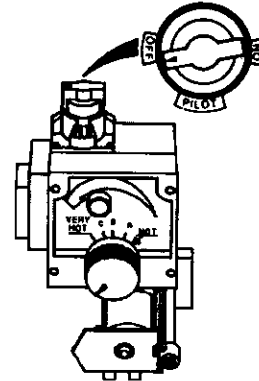

Figure 9
4. Set the thermostat to lowest setting by turning the water temperature dial clockwise (↻) to its lowest temperature setting (with arrow on dial) as shown. **DO NOT FORCE.** (Figure 9, Page 22)
6. Wait five (5) minutes to clear out any gas. If you then smell gas, STOP! Follow "B" in the safety information above on this label. If you don't smell gas, go to the next step.
9. If you don't smell gas, turn knob on gas control counter-clockwise (↺) to "PILOT" position. (Figure 9, Page 22)
10. Push in control knob all the way and hold down. Immediately light the pilot with a match. Continue to hold control knob in for about one (1) minute after the pilot is lit. Release knob and it will pop back up. Pilot should remain lit. If it goes out, repeat steps 5 through 10.
- If the pilot will not stay lit after several tries, depress and turn the gas control knob clockwise (↻) to "OFF" and call your service technician or gas supplier. (Figure 9, Page 22)
4. Turn gas control knob clockwise (↻) to "OFF" position. Knob cannot be turned from "PILOT" to "OFF" unless knob is depressed slightly. **DO NOT FORCE.** (Figure 9, Page 22)